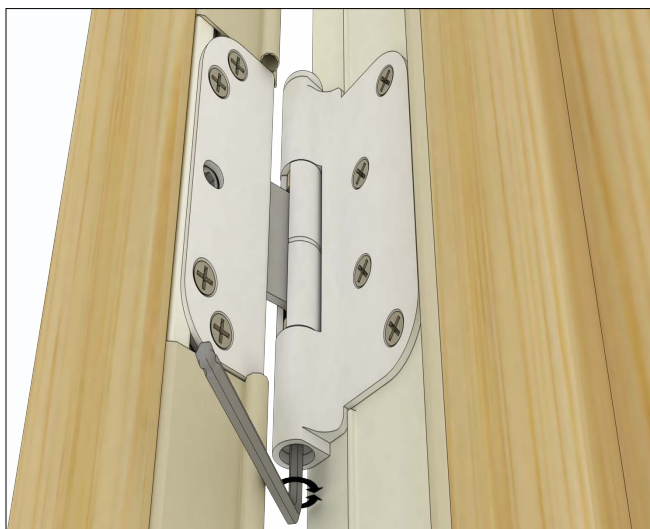

Figure 12
1. Adjustments should only be made when panel misalignment is visible or it causes poor operation of the door/lock. Make any adjustments in small increments (one rotation per hinge), starting with the bottom hinge and working up to the top hinge. Repeat the process as necessary adjusting one rotation at a time. Check results, readjust or proceed as required. Each hinge has a vertical and horizontal adjustment screw. See Figure 12.